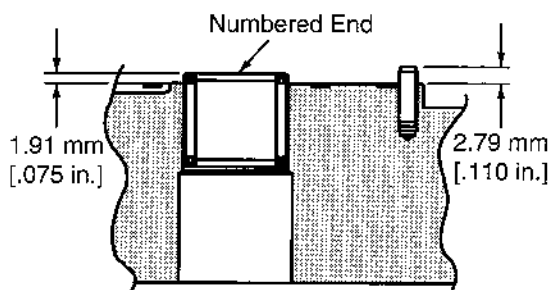

Figure 1-3
- Check the bearing (press fit) in backplate. If needles remain in cage, move freely, and setting is at the dimension shown in figure 1-3, removal not required.
- Check roll pin in backplate. If tight and set to the dimension shown in figure 1-3, removal not required.
10 If necessary, press new bearing and roll pin in backplate to dimension shown in figure 1-3. Bearing installed with the numbered end outward. Roll pin installed with split oriented away from bearing.